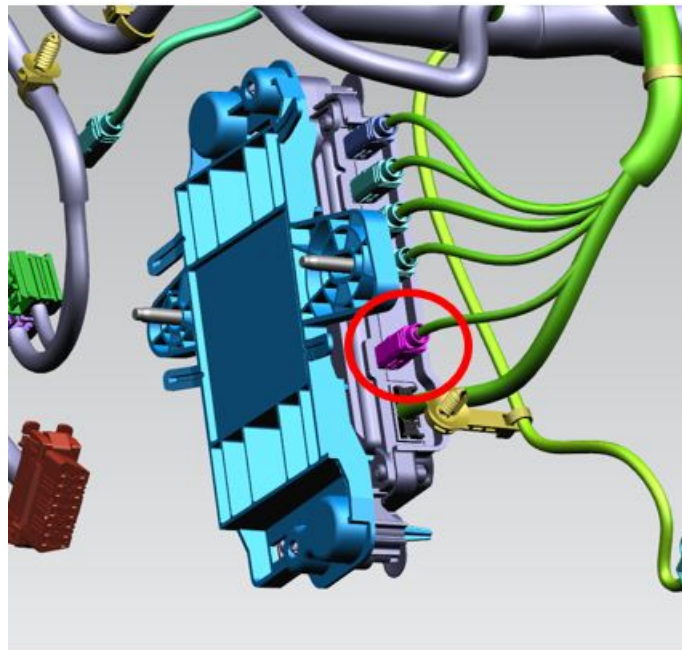

Fig. 2
4. Disconnect the coax connector D2999F (pink) from the back of the Central Vision Processing (CVPM) (Fig. 2) .